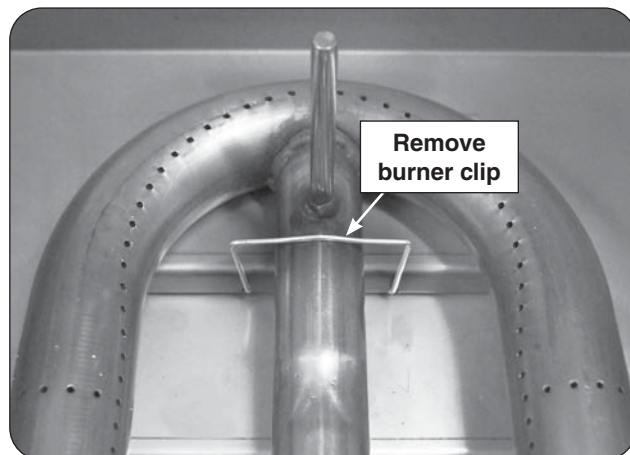

Fig. 32-2 Main burner removal
2. Locate the burner clip (located over the rear center tube of the burner) and slightly pinch and remove the clip from the burner support. See Fig. 32-2.